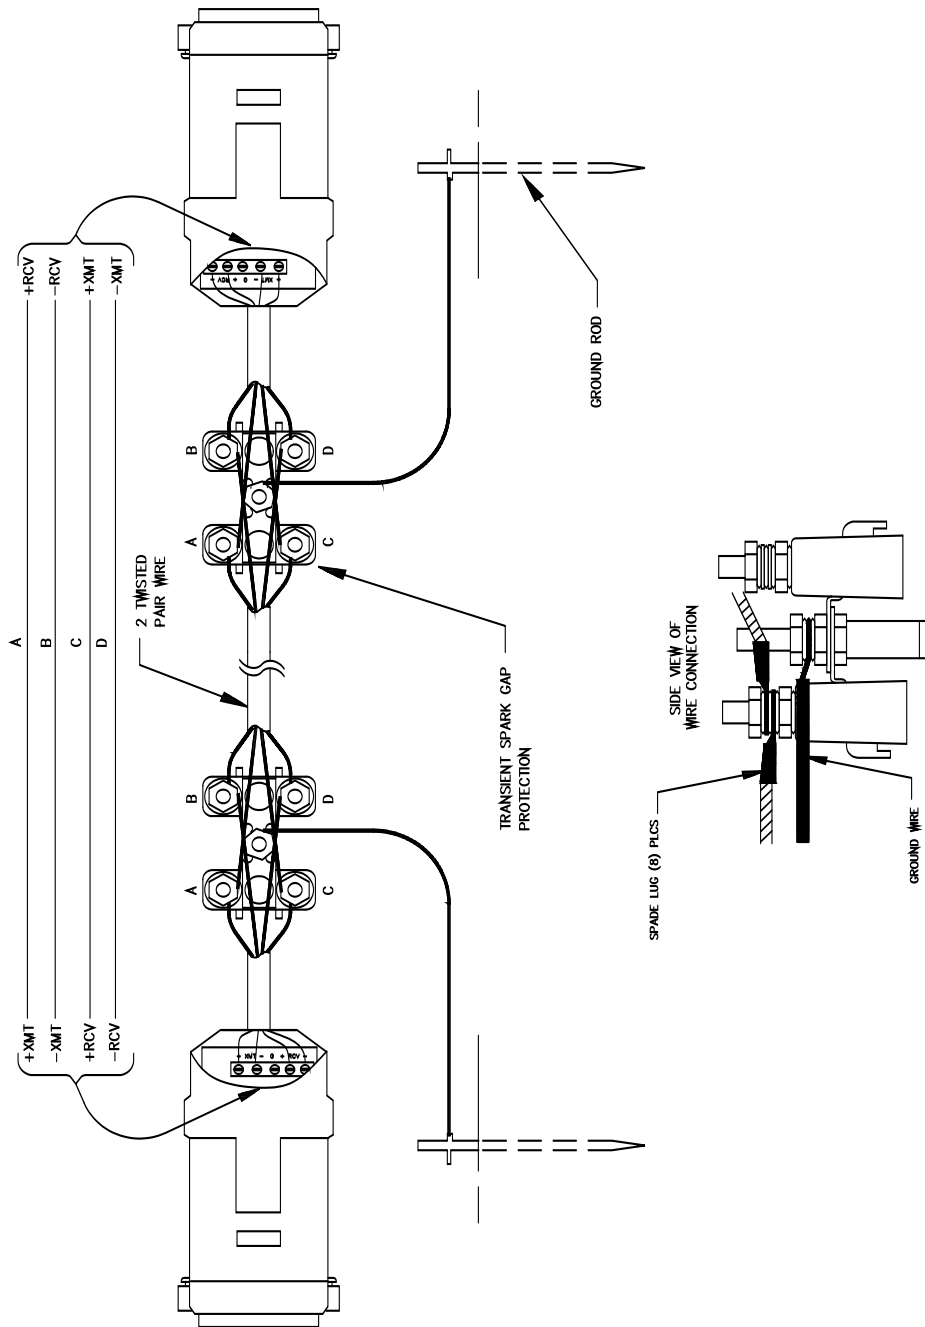

FIGURE 4-2. Installation of Spark Gap Protection
FIGURE 4-2 shows a typical setup of the RAD modems. Installation is as follows:
3. Wiring connections are made as shown in FIGURE 4-2. Note wires labeled A and B are one twisted pair of the cable. Wires labeled C and D are the other twisted pair.
4. Transients induced on the communication line may damage any electronics connected at either end of the line. To decrease the chances for damage, spark gaps should be installed as shown in FIGURE 4-2. The transient protection shown may be purchased from Campbell Scientific (FIGURE 4-2). Spark gap wiring is straight through such that pin to pin continuity exists between the two modems. If the modems are installed entirely within a building, the transient spark gap protection is probably not needed.